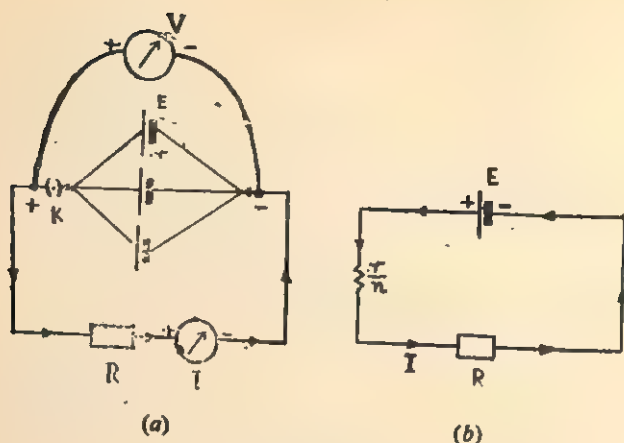

Fig. 12.23
**II. Parallel Combination of Cells.** In this type of grouping of cells the positive terminals of all the cells are connected at one point (say  $A$ ) and their negative terminals are connected at another common point (say  $B$ ) as shown in Fig. 12.21 (b). Let there be  $n$  identical cells, each of e.m.f.  $E$  and internal resistance  $r$ . Let these cells be connected in parallel to supply current in an external resistance  $R$  as shown in Fig. 12.23 (a). The resultant e.m.f. across the points  $A, B$  is  $E$  (i.e. equal to e.m.f. of the individual cell). The parallel combination of the internal resistances acts in series with  $R$ . The equivalent resistance of the parallel combination is obtained as below:
The current  $I$  through the resistance  $R$  is given by Ohm's Law [See Fig. 12.23 (b)] as below :—
(vi) Now connect all the cells in parallel as shown in Fig. 12.23 (a). Note the readings of voltmeter and ammeter for the same four values of  $R$  as taken earlier.